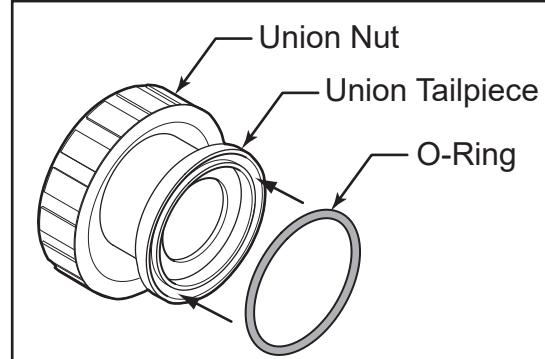

Figure 4. O-ring Placement
8. Place the o-rings on the face of the union tail pieces, where the face of the union will connect to the filter bulkheads, see Figure 4.